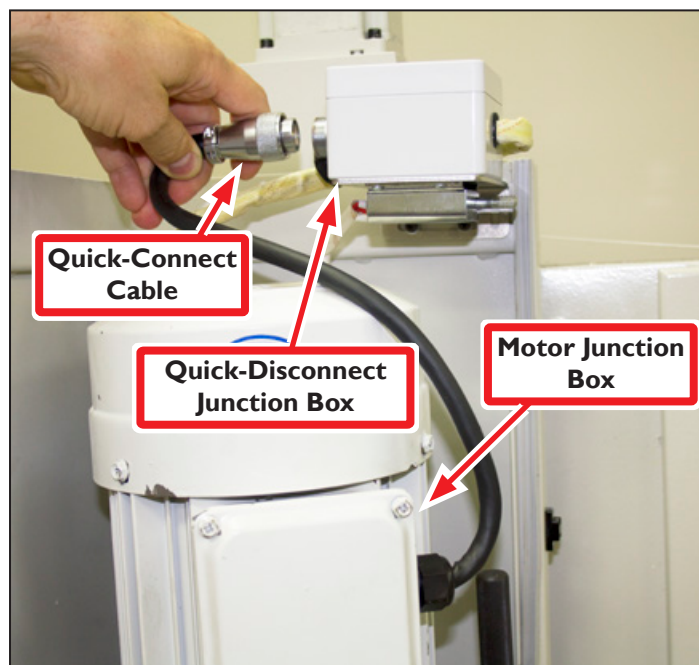

Figure 23
14. Route the Quick-Connect Cable to the Quick-Disconnect Junction Box, and then screw down threaded connector (see **Figure 23**).